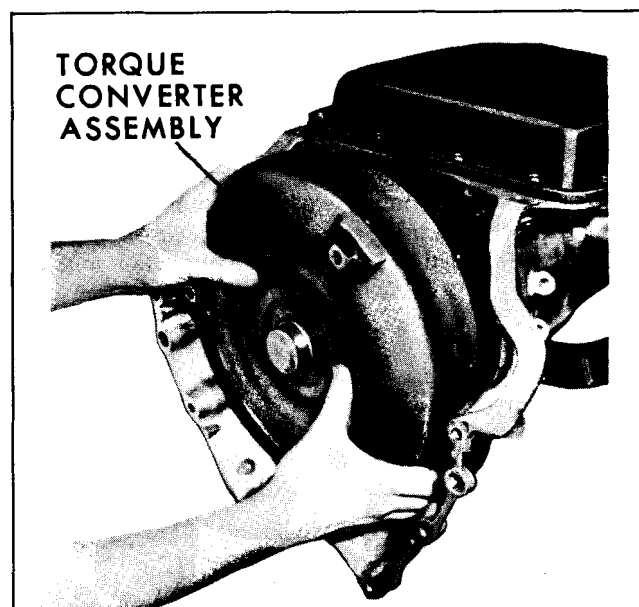

Fig. 7G-164 Installing Converter
3. Install converter assembly into transmission, making certain that converter hub drive slots are fully engaged with oil pump drive gear tangs and converter is installed fully towards rear of transmission (Fig. 7G-164).